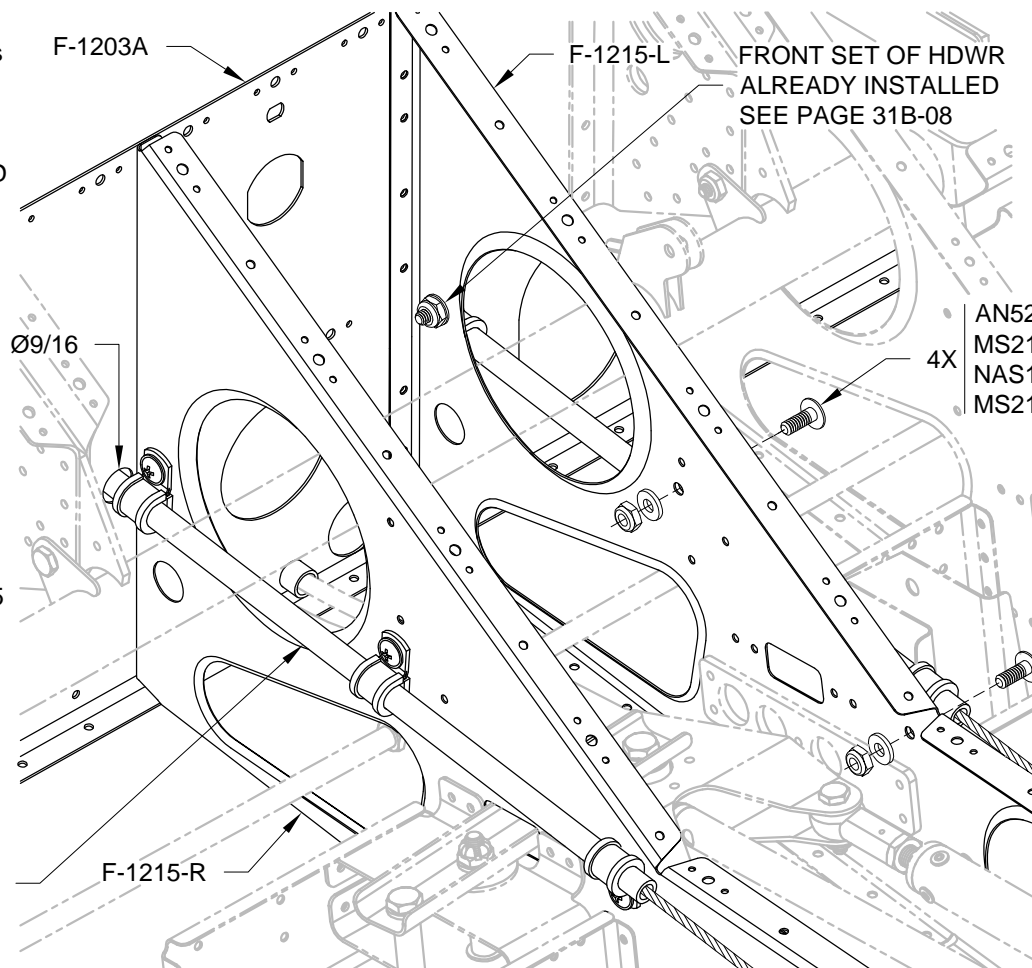

FIGURE 1: SECURING THE RUDDER CABLE PLASTIC SLEEVE
Step 1: Route the spade end (not the fork end) of the F-1239 Rudder Cables along with the 11 1/2 inch long plastic sleeve on both rudder cables, forward through the SB750-10 snap bushings in the F-1207B, F-1206A, and F-1204D & A Bulkheads (see Page 21-14, Figure 3 and Page 21-19, Figure 3). Leave the plastic sleeves at the location shown in Figure 1, then continue routing the cable ends through the two Ø9/16 holes in the F-1203A Bulkhead and the two upper SB750-10 snap bushings in the F-1202F Bulkhead.
Step 2: Using the hardware shown in Figure 1, secure the plastic sleeve on both F-1239 Rudder Cables to the three Ø.191 holes in the center F-1215 Seat Ribs (be sure the MS21919 cushion clamps are oriented as shown). The plastic sleeves are to extend through the Ø9/16 holes in the F-1203A Bulkhead and forward of the bulkhead by approximately 3/8 of an inch.